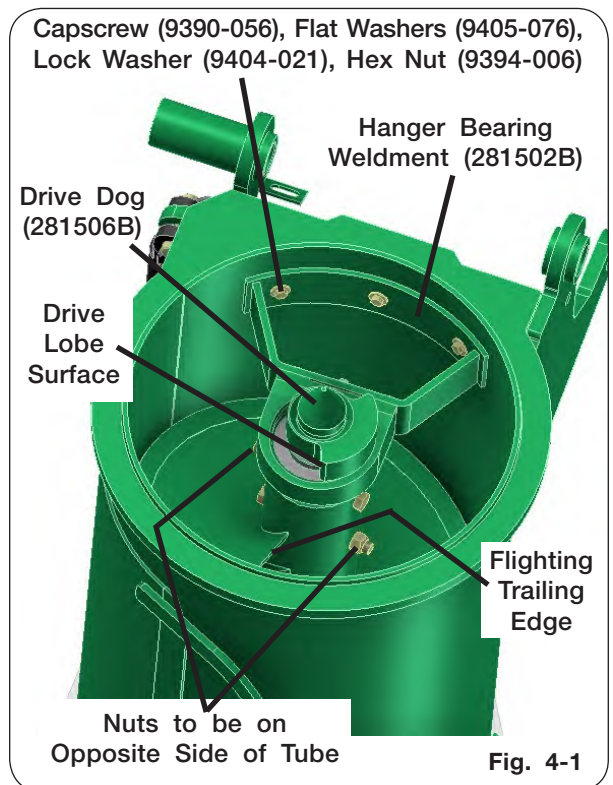

Fig. 4-1
2. Completely close cleanout door. Inspect and verify that all the grain dust and filings are removed that may prevent the door from shutting completely. (FIG. 4-1)
2. Loosen the setscrews (9399-071) on all flangette bearings (9003920) (Fig. 4-1).
1. Remove the three 3/8"-16UNC x 1 1/4" cap-screws (9390-056), six flat washers 3/8" (9405-076), three lock washers 3/8" (9404-021) and hex nuts 3/8"-16UNC (9394-006) which secures the hanger bearing weldment (281502B) to the auger tube (Fig. 4-1).
Lower Auger: Assemble the drive dog weldment (281506B) and hanger bearing weldment (281502B) to the auger making sure the drive dog weldment contact surface (for upper auger pin) is located approximately 30 degrees behind the lower auger flighting trailing edge. Secure with two 5/8"-11UNC x 6" capscrews (9390-136), lock washers (9404-029) and hex nuts 5/8"-11UNC (9394-014), installed opposite of each other, as shown in Fig. 4-1.
2. Using a safe lifting device rated for a minimum of 700 lbs., install the lower auger sub-assembly into the lower auger housing. Align auger end with the three pin drive bushing and securely engage together. Secure hanger bearing to housing wall with three 3/8"-16UNC x 1 1/4" capscrews (9390-056), six flat washers (9405-076), three lock washers (9404-021) and hex nuts 3/8"-16UNC (9394-006) (Fig. 4-1).